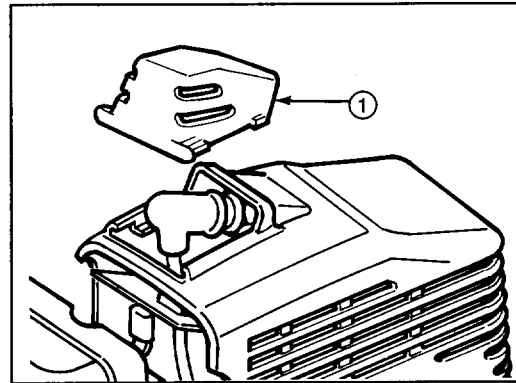

Figure 15
REPLACING SPARK PLUG (Fig. 15)
1. Stop engine. Remove spark plug cover by squeezing sides and sliding off engine cover (Fig. 15). Pull wire off spark plug.
1. Drain gasoline from fuel tank. Remove spark plug cover by squeezing sides and sliding off engine cover (Fig. 15). Pull wire off spark plug.